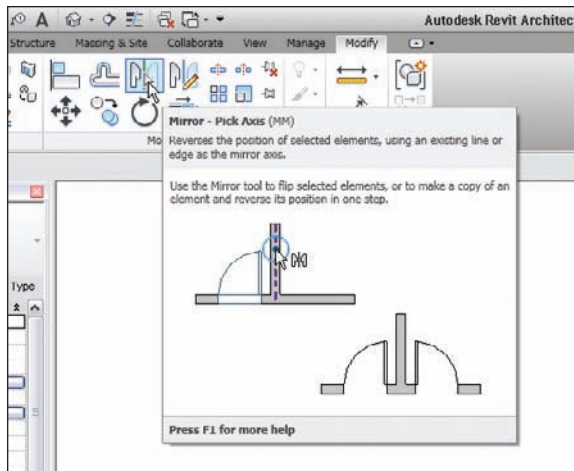

FIGURE 4.25 The Mirror buttons appear when you select an item.
3. On the Modify | Windows tab, select the Mirror - Pick Axis button, as shown in Figure 4.25.